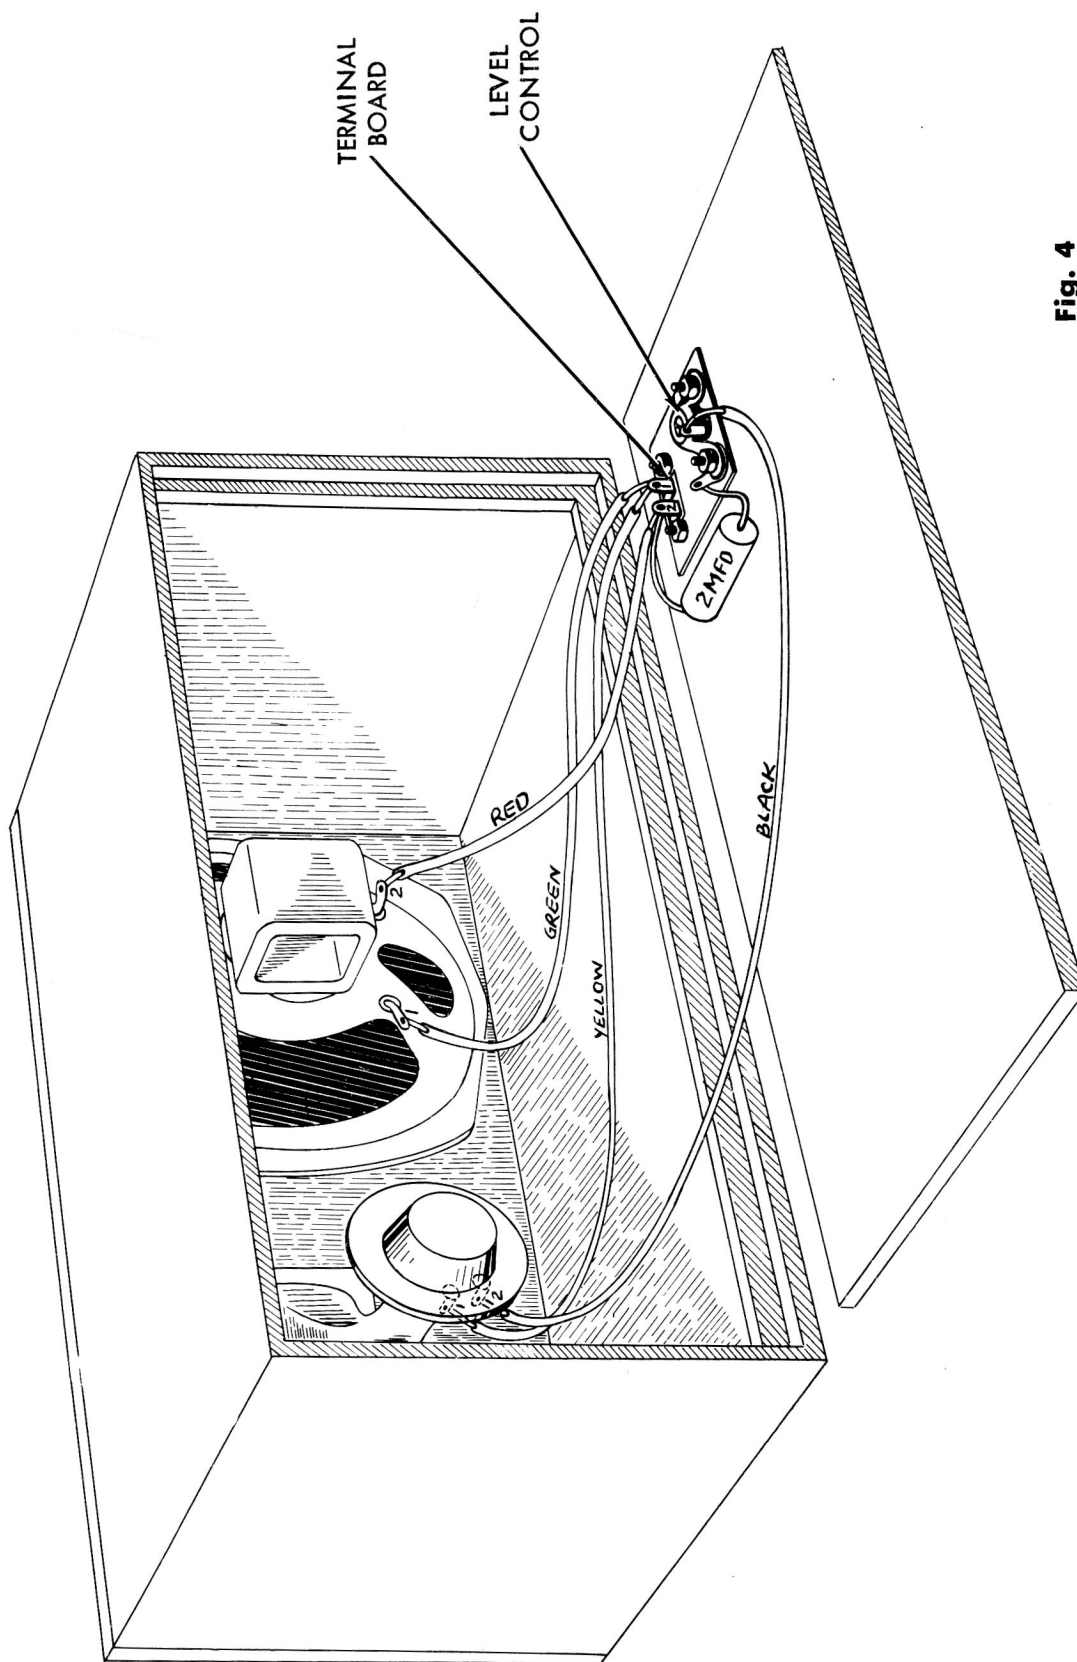

Fig. 4
7. () Fig. 4. Place the cabinet and the back panel on a flat surface, positioned as shown in the drawing.
8. () Fig. 4. Connect the 2 mfd paper capacitor between the solder lug under one of the mounting tabs on the level control and terminal 2 of the terminal board. Push the capacitor against the plate and draw the leads through both lugs so that the capacitor will be held immobile. Crimp and solder the lead going to the solder lug under the mounting tab of the level control. Trim any excess lead. The other lead will be soldered in the next step.
9. () Fig. 4. Connect the red lead from terminal 2 of the cone speaker to terminal 2 of the terminal board. Crimp this lead and the capacitor lead previously installed and solder terminal 2 of the terminal board. Trim off any excess lead.
10. () Fig. 4. Bend the level control terminal lug away from the chassis. Connect the black lead from terminal 2 of the horn speaker to this terminal lug, then crimp the lead and solder the connection. Trim off any excess lead. Be sure that there is no short between the terminal lug or the lead to the metal plate at this point.
11. () Fig. 4. Connect both the yellow lead from terminal 1 of the horn speaker and the green lead from terminal 1 of the cone speaker to terminal 1 of the terminal board; then crimp both leads and solder the connection. Trim off any excess lead. This completes the wiring.